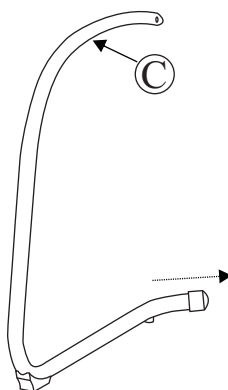

Figure 2
Step 2: Join the two backs (A) by attaching them to the Upper Back Crossbar (D) using two $\varnothing 6.5 \times 1.0$ washers (6), two $\varnothing 6.5 \times 6.0\text{mm}$ plastic washers (10), one 1/4"x 32mm bolt (3) and one 1/4"nut (7) as shown in *(Figure 2)*. Tighten with hex wrench (12) and Allen Key (13). Do not over tighten. Cover nuts and bolts with covers (8 & 9).
Step2: Insert table leg connector (C) in the center of the three legs as shown in Figure 2. Secure by inserting two ST4.2 x 33mm bolt (5) through the two holes in the center of the leg and into the leg connector as shown in (Figure 3). Tighten a few revolutions only. Do not tighten completely. Repeat for remaining two legs.
Step3: Make any adjustments to the parts to ensure they are properly aligned. At this time tighten all nuts and bolts using Allen Wrench (6) and hex wrench (7). Tighten each bolt connection a few revolutions at a time, rotating between bolt connections until all nuts and bolts are completely tightened. DO NOT OVER TIGHTEN. Cover bolts with PVC bolt covers. Turn table into the upright position.